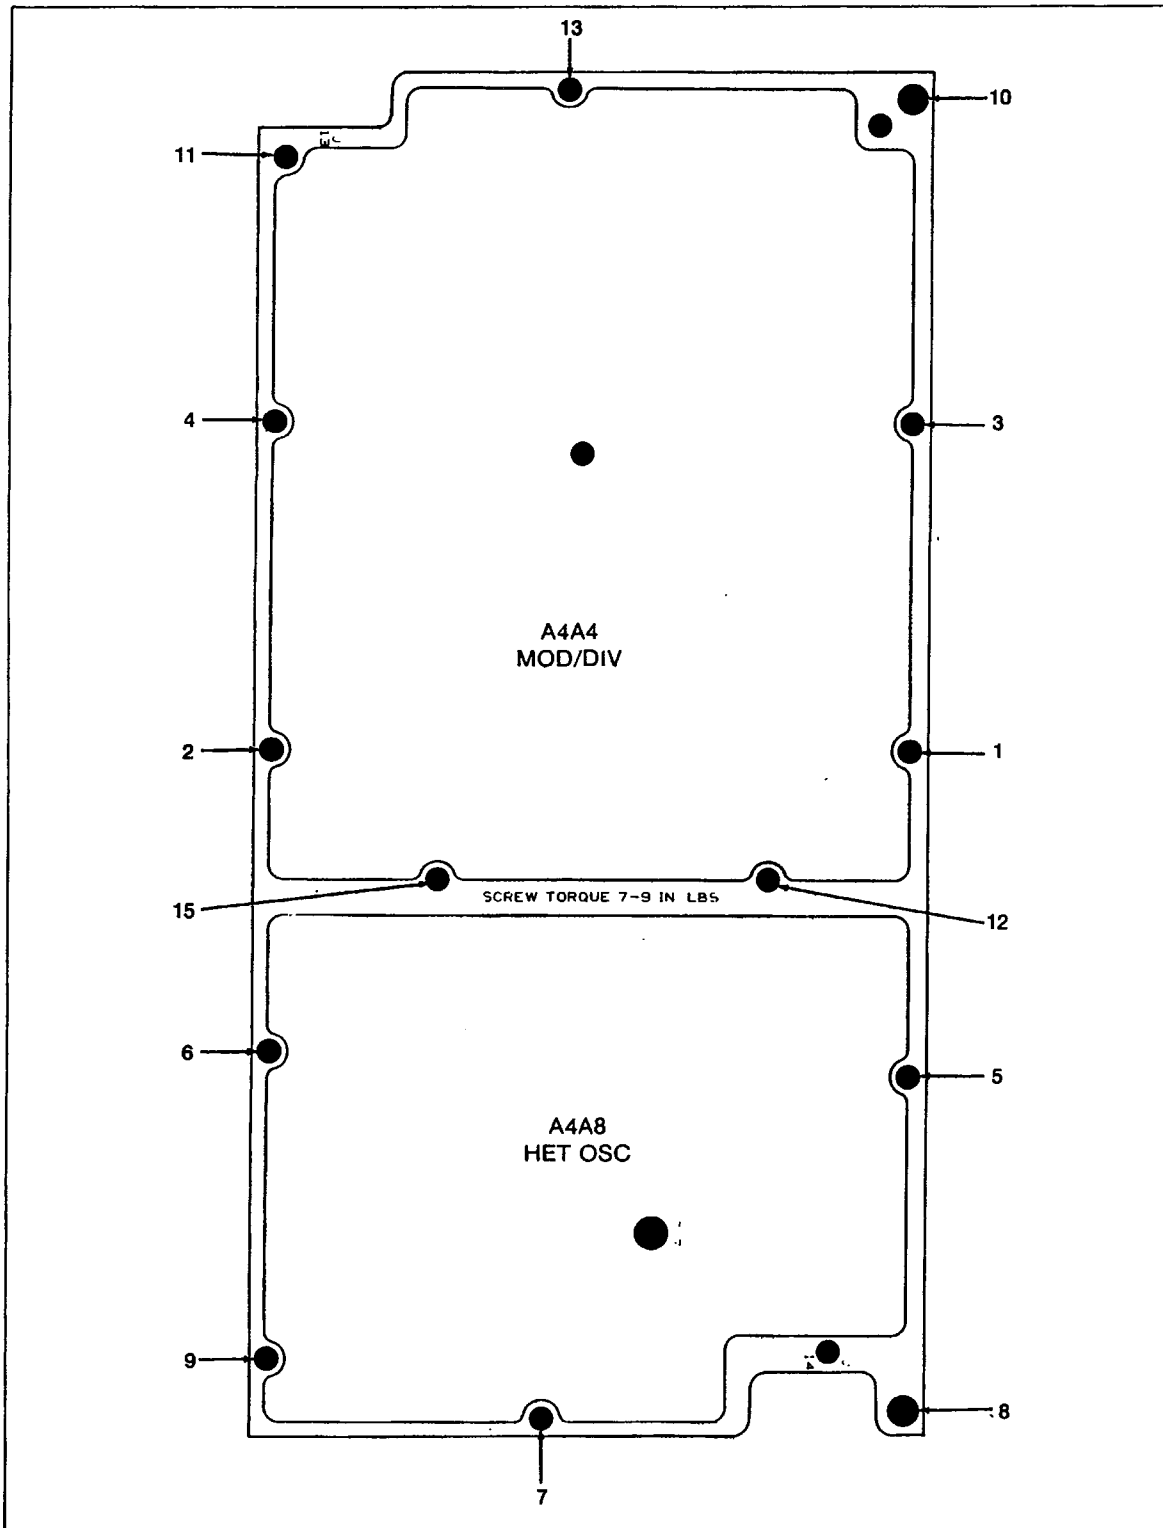

Figure 3-14. Torque Sequence, A4A4, A4A8, Top of Output Module
a. Torque all screws to 3 inch-pounds in the numerical sequence shown in Figure 3-14.
b. Torque all screws 7 to 9 inch-pounds in the numerical sequence shown in Figure 3-14. The torque value should be the same for all screws.